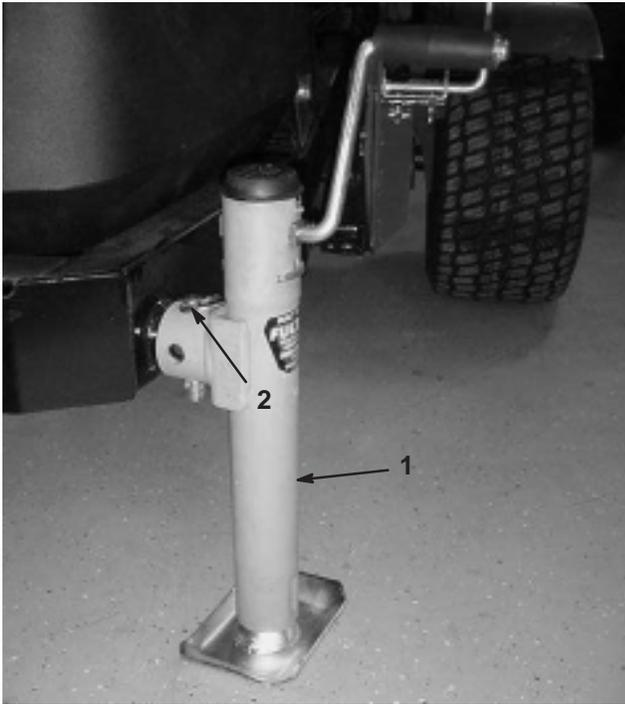

Figure 5
- Insert jack onto frame pin and secure with pin (Fig. 5).